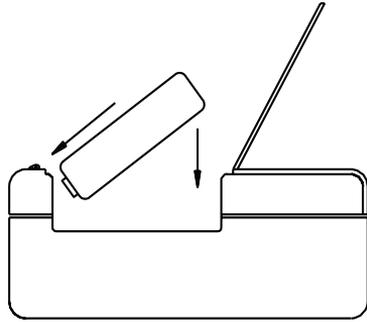

Figure 14 - Battery Orientation
- Insert alkaline battery holder, with 4 approved AAA cells, into the battery compartment. Observe battery pack contacts orientation (See **Figure 14**). This means that the connector end faces the rear of the instrument where it makes electrical contact. Once the end with the connector is pushed in, the rear of the battery pack may be pushed down.
- Insert the MPRO NiMH rechargeable battery pack into the battery compartment as shown (See **Figure 14**). The connector end faces the rear of the instrument where it makes electrical contact. Once the end with the connector is pushed in, the rear of the battery pack may now be pushed down.